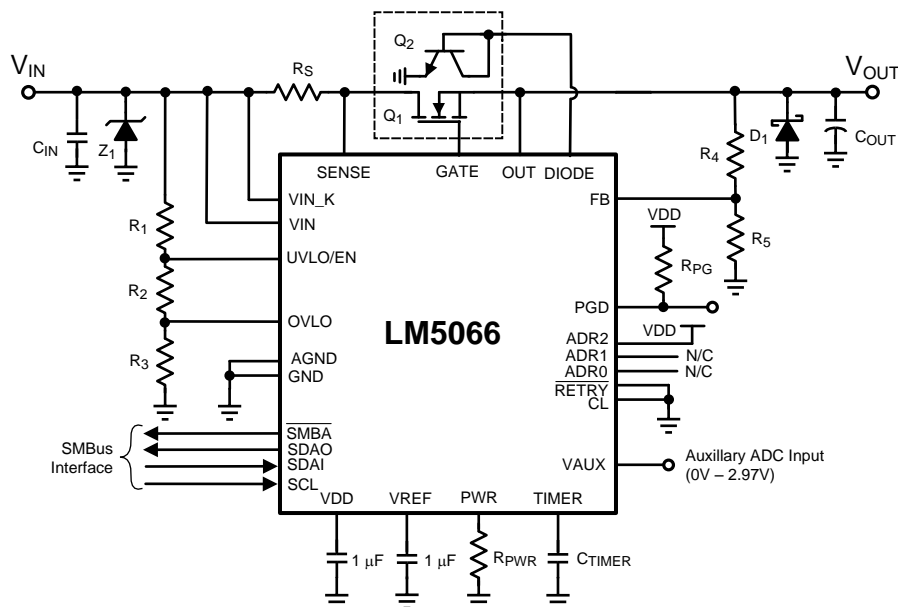
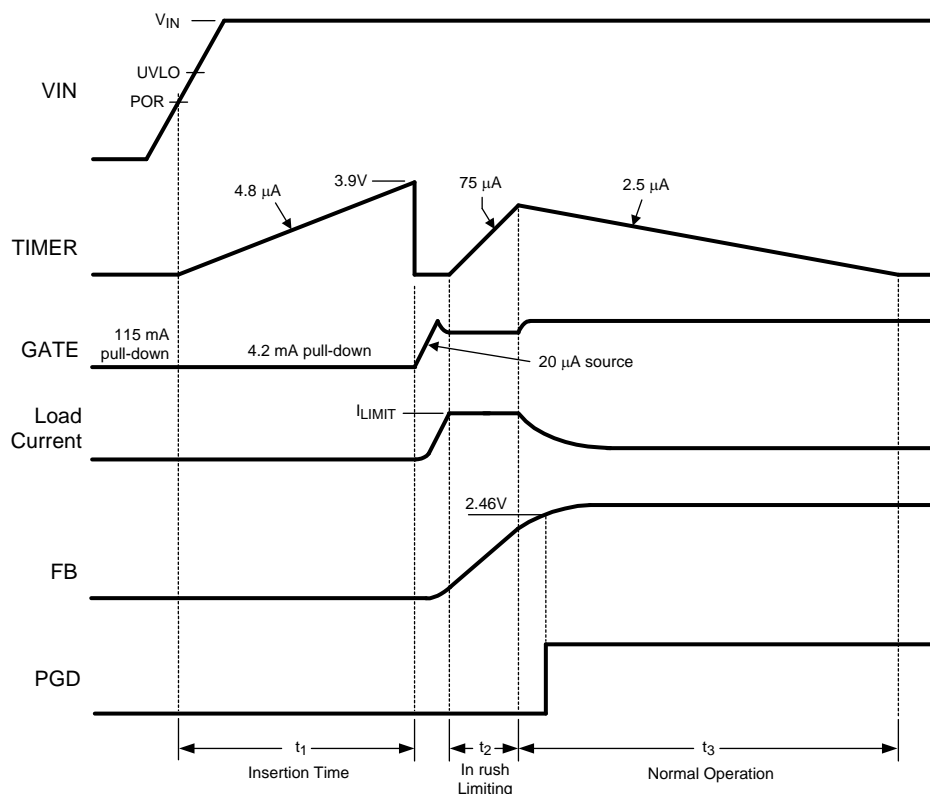

Figure 1. Typical Application Circuit
Figure 2. Power Up Sequence (Current Limit Only)
The VIN operating range of the LM5066 is 10V to 80V, with a transient capability to 100V. Referring to Figure 1 and Figure 2, as the voltage at VIN initially increases, the external N-channel MOSFET (Q₁) is held off by an internal 115 mA pull-down current at the GATE pin. The strong pull-down current at the GATE pin prevents an inadvertent turn-on as the MOSFET's gate-to-drain (Miller) capacitance is charged. Additionally, the TIMER pin is initially held at ground. When the V_{IN} voltage reaches the POR threshold the insertion time begins. During the insertion time, the capacitor at the TIMER pin (C_T) is charged by a 4.8 μ A current source, and Q₁ is held off by a 4.2 mA pull-down current at the GATE pin regardless of the input voltage. The insertion time delay allows ringing
As the voltage at the OUT pin increases, the LM5066 monitors the drain current and power dissipation of MOSFET Q_1 . In-rush current limiting and/or power limiting circuits actively control the current delivered to the load. During the in-rush limiting interval (t_2 in Figure 2) an internal 75 μ A fault timer current source charges C_T . If Q_1 's power dissipation and the input current reduce below their respective limiting thresholds before the TIMER pin reaches 3.9V, the 75 μ A current source is switched off, and C_T is discharged by the internal 2.5 μ A current sink (t_3 in Figure 2). The in-rush limiting will no longer engage unless a current-limit condition occurs.
A charge pump provides the voltage at the GATE pin to enhance the N-Channel MOSFET's gate (Q_1). During normal operating conditions (t_3 in Figure 2) the gate of Q_1 is held charged by an internal 20 μ A current source. The charge pump peak voltage is roughly 13.5V, which will force a V_{GS} across Q_1 of 13.5V under normal operation. When the system voltage is initially applied, the GATE pin is held low by a 115 mA pull-down current. This helps prevent an inadvertent turn-on of Q_1 through its drain-gate capacitance as the applied system voltage increases.
During the insertion time (t_1 in Figure 2) the GATE pin is held low by a 4.2 mA pull-down current. This maintains Q_1 in the off-state until the end of t_1 , regardless of the voltage at VIN or UVLO. Following the insertion time, during t_2 in Figure 2 the gate voltage of Q_1 is modulated to keep the current or power dissipation level from exceeding the programmed levels. While in the current or power limiting mode, the TIMER pin capacitor is charging. If the current and power limiting cease before the TIMER pin reaches 3.9V the TIMER pin capacitor then discharges, and the circuit begins normal operation. If the in-rush limiting condition persists such that the TIMER pin reached 3.9V during t_2 , the GATE pin is then pulled low by the 4.2 mA pull-down current. The GATE pin is then held low until either a power up sequence is initiated (RETRY pin to VDD), or an automatic retry is attempted (RETRY pin to GROUND or floating). See the Fault Timer & Restart section. If the system input voltage falls below the UVLO threshold, or rises above the OVLO threshold, the GATE pin is pulled low by the 4.2 mA pull-down current to switch off Q_1 .
When the current limit or power limit threshold is reached during turn-on, or as a result of a fault condition, the gate-to-source voltage of Q_1 is modulated to regulate the load current and power dissipation in Q_1 . When either limiting function is active, a $75\ \mu\text{A}$ fault timer current source charges the external capacitor (C_T) at the TIMER pin as shown in Figure 2 (Fault Timeout Period). If the fault condition subsides during the Fault Timeout Period before the TIMER pin reaches 3.9V, the LM5066 returns to the normal operating mode and C_T is discharged by the 1.5 mA current sink. If the TIMER pin reaches 3.9V during the Fault Timeout Period, Q_1 is switched off by a 4.2 mA pull-down current at the GATE pin. The subsequent restart procedure then depends on the selected retry configuration.
A) Insertion Delay -Upon applying the system voltage (V_{IN}) to the circuit, the external MOSFET (Q_1) is held off during the insertion time (t_1 in Figure 2) to allow ringing and transients at V_{IN} to settle. Since each backplane's response to a circuit card plug-in is unique, the worst case settling time must be determined for each application. The insertion time starts when V_{IN} reaches the POR threshold, at which time the internal 4.8 μA current source charges C_T from 0V to 3.9V. The required capacitor value is calculated from: